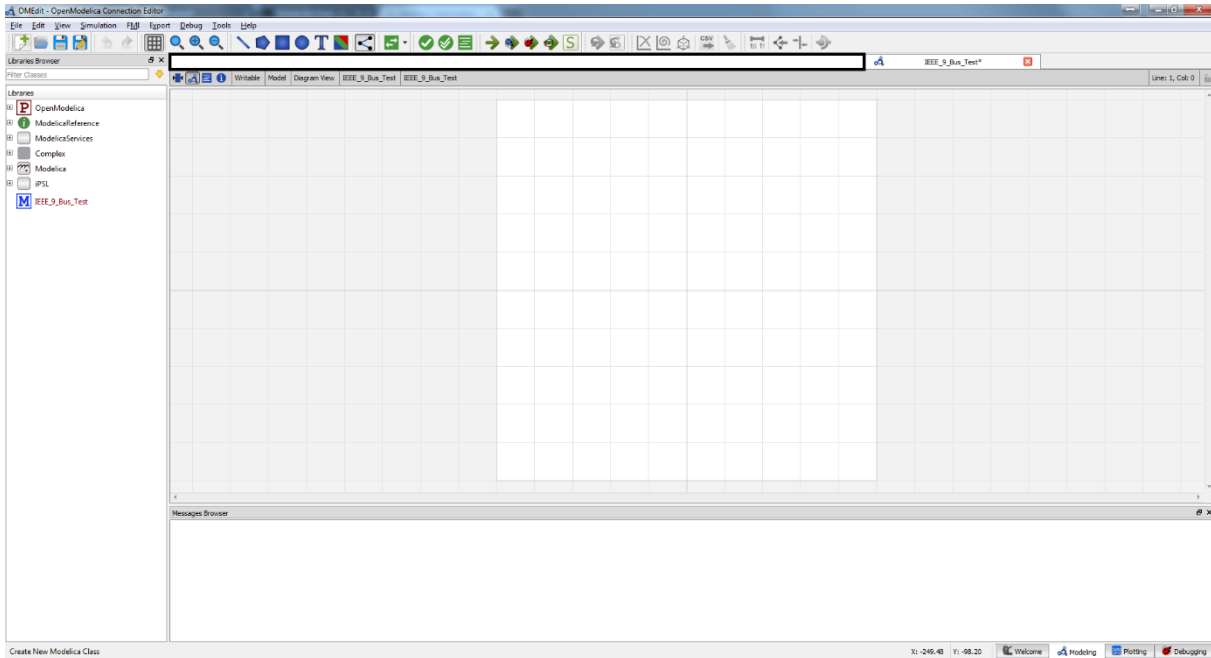

Figure 4: OpenModelica graphical modelling interface
3. Your OM screen may look like that in Figure 3 or not. Figure 3 shows the equation mode. You can easily change your view to the one in figure by selecting Diagram View (by clicking on the  icon) as shown in figure 3. This will change the OM interface to graphical modelling mode as in Figure 4. (Sometimes, OM window will open directly on the graphical mode). This will now be referred to as *network model workspace*.